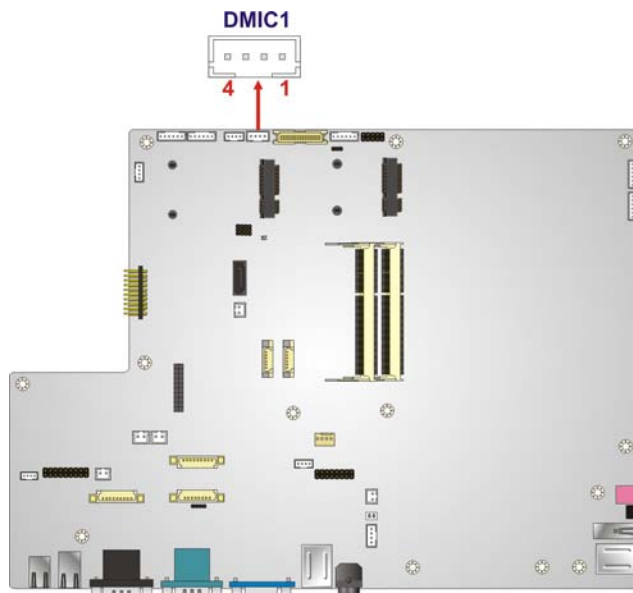

Figure 5-10: Digital Microphone Connector Location
- CN Location: See **Figure 5-10**